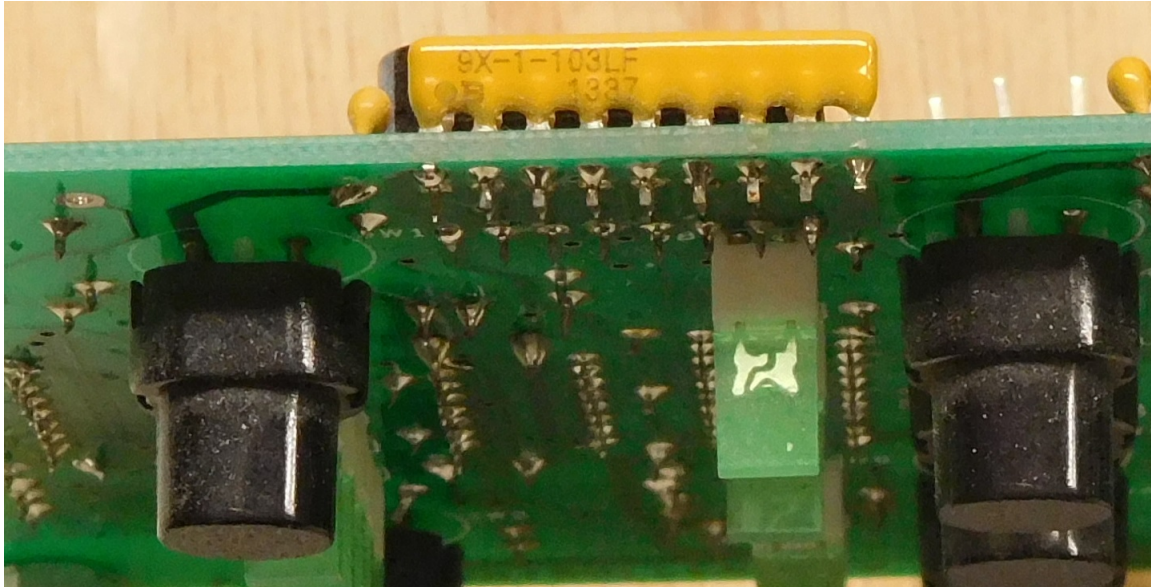

Figure 27-Observe D8 installed and orientation of the lead frame of the LED
*Figure 27 gives you one more check to get the LED installation correct. 1 out of 100 people have done this wrong! Don't be part of **that** 1%!*